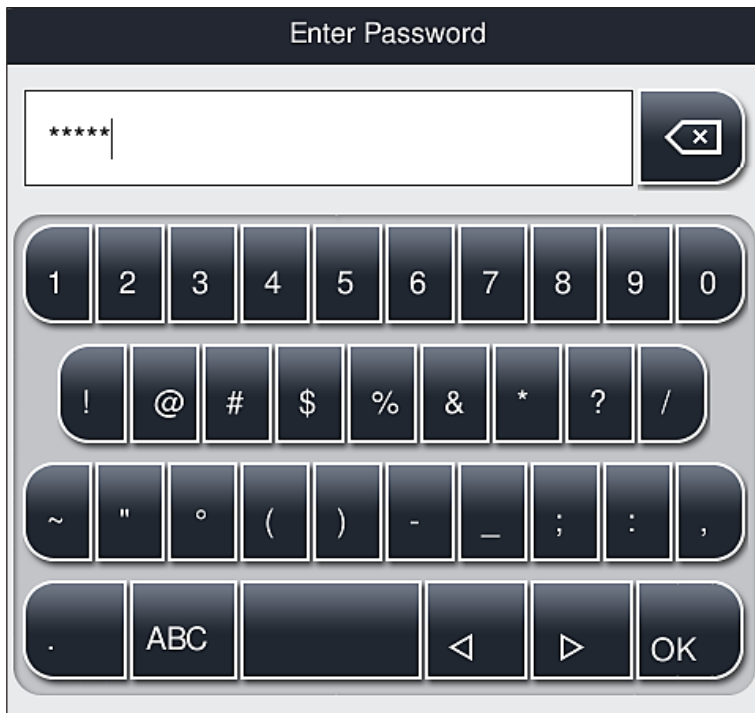

Fig. 26
- 7 Special character shift button (→ Fig. 26)
1. To enter a special character or umlaut, etc. not included in the special character keyboard (→ Fig. 26), hold the corresponding normal button on the keyboard.